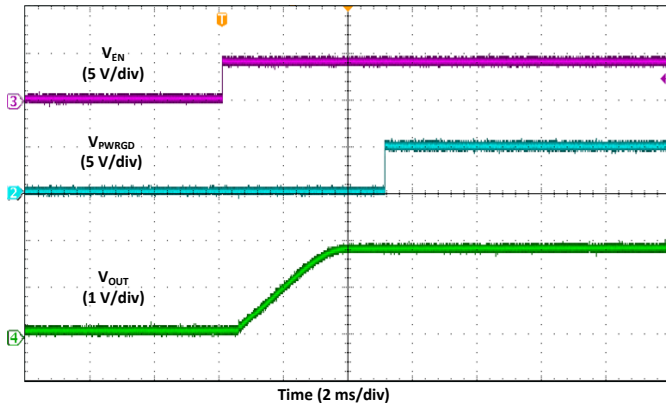
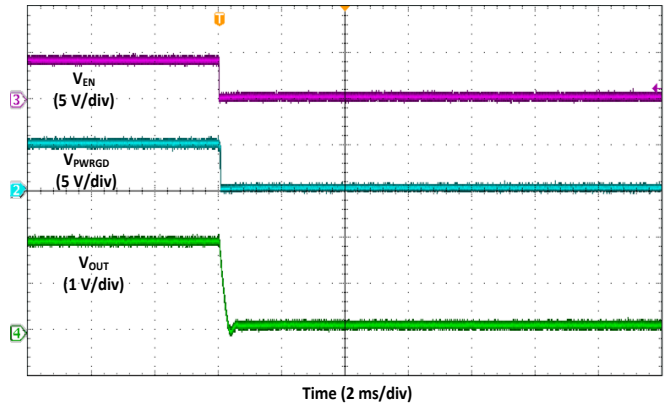

Fig. 21 Enable Turn-On for SPM1004-1V8, ( $I_{OUT} = 6A$ )
Fig. 22 Enable Turn-Off for SPM1004-1V8, ( $I_{OUT} = 6A$ )
Fig. 21 and Fig. 22 show the typical output voltage waveforms when SPM1004-1V8 is turned on and turned off by the EN pin. In these figures, the top trace is enable signal (EN), the middle trace Power Good voltage (PWRGD), and the bottom trace is the output voltage.